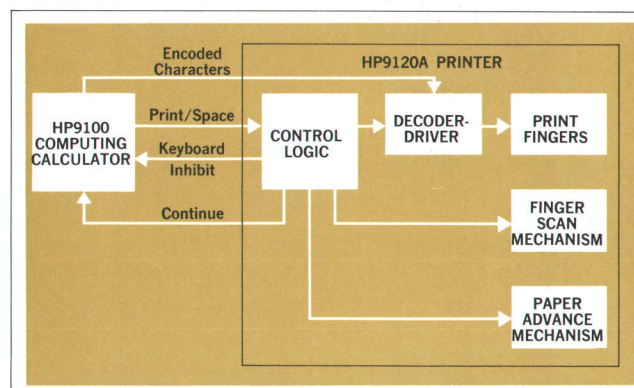

Fig. 4. Control logic of the printer and interconnection with the calculator.
**Fig. 4.** Four cards are used with the Card Reader. At left, a program card, next a data card, a surveying data card, and at right a quiz card. The quiz card can be used to mark answers on up to 24 multiple choice questions.
Fig. 4 is a block diagram showing printer control logic